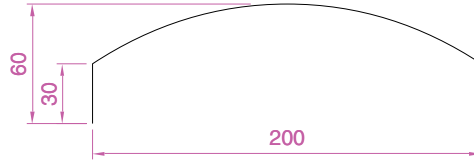

Fig. 18.13 Sixth example – **Surfaces model** – pline outline
2. Construct the polyline to the sizes and shape as shown in Fig. 18.13.